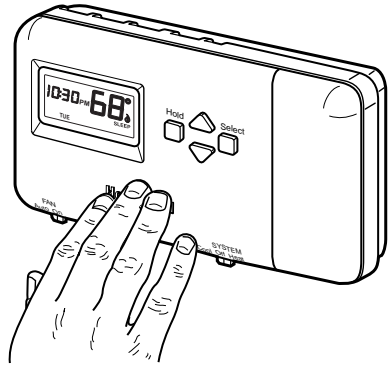

Fig. 12. Mounting thermostat to wallplate.
- Swing down the thermostat and press the lower edge of the thermostat onto the wallplate to latch. See Fig. 12.